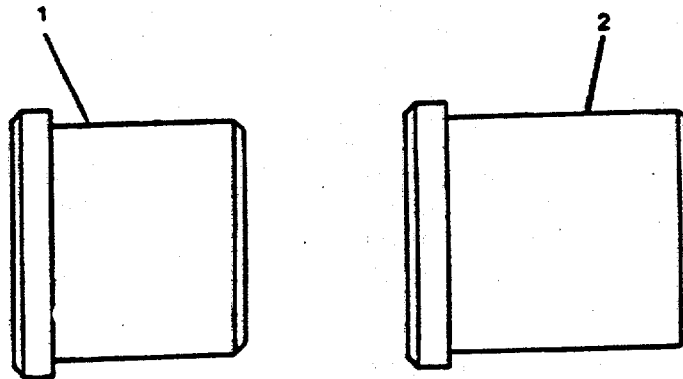

FIGURE 4-65. Bushing Driver Identification.
- Use bushing driver (1) to install bushings No. 1, No. 2, No. 4, and No. 6. Use bushing driver (2) to install bushings No. 3 and No. 5 (FIGURE 4-65).
- (5) Install the tool assembly through the camshaft bore until the driver is in the cavity between the bores where the bushing is to be installed.